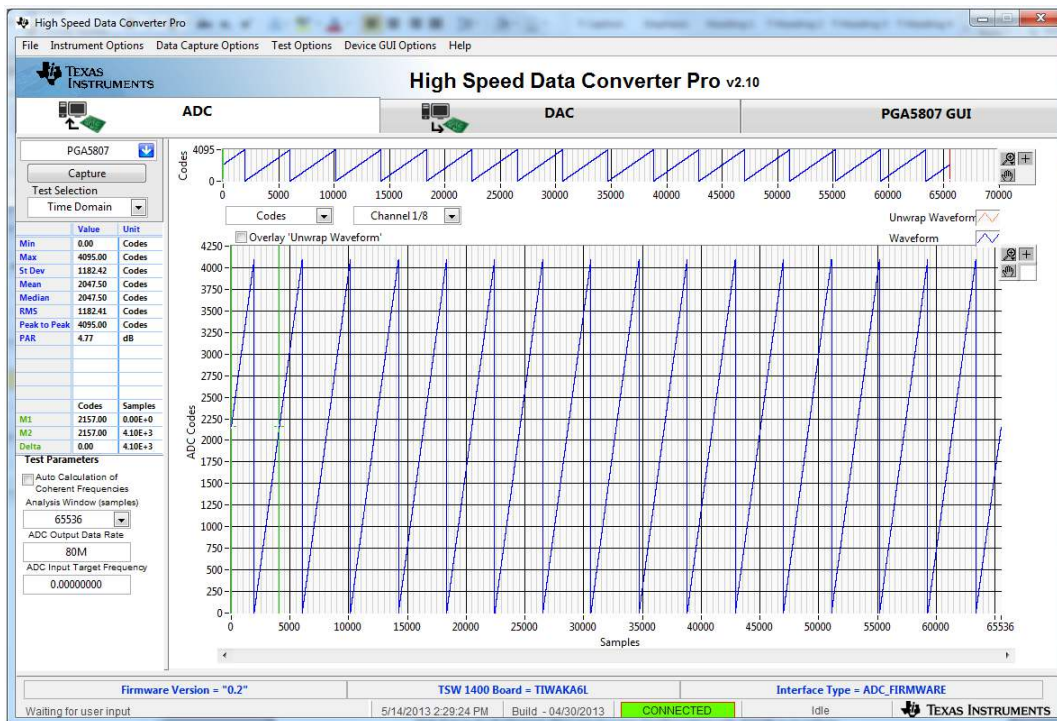

Figure 34. RAMP Capture
- The saw tooth waveform should be captured and displayed as in Figure 34.